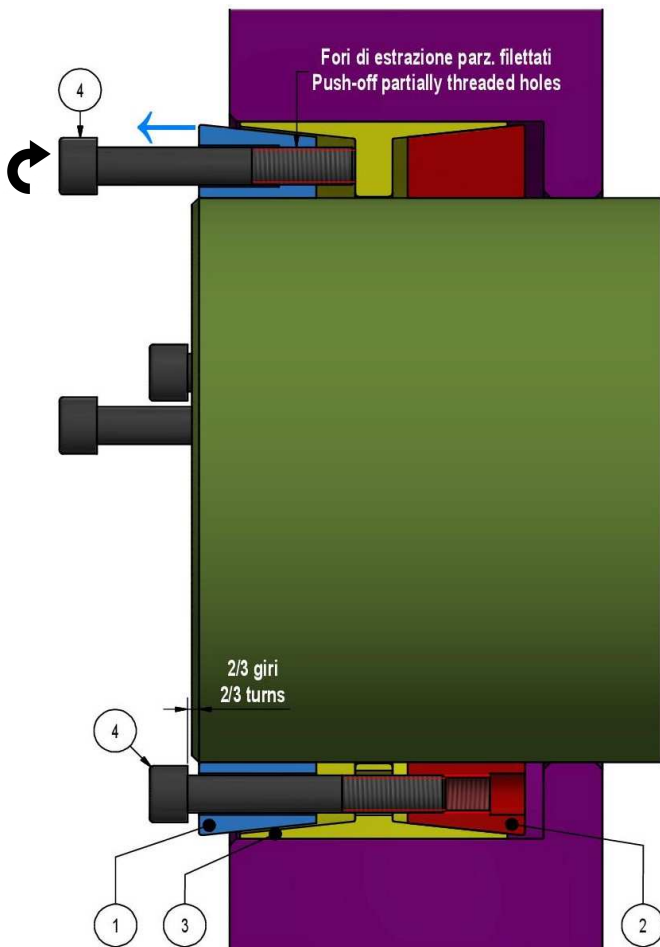

Fig. 4. Release of front thrust ring.
2. Loosen all screws by two/three turns; then transfer some screws into all push-off partially threaded holes in the front thrust ring. **Progressively tighten these screws in a crosswise pattern, using approx. ¼ turns for several passes** until the front thrust ring is released (fig. 4). Start with a screw located at 90° approx. respect to slit; screws adjacent to slit shall be tightened in a row.